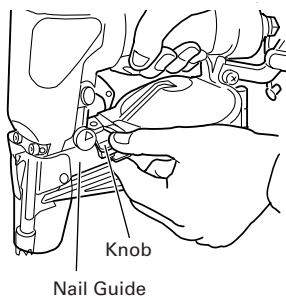

Fig. 1
- (1) Load nails in the magazine
- Grip the nail guide and knob with fingers. Then depress the knob to open the nail guide towards the left. (See Fig. 1.)